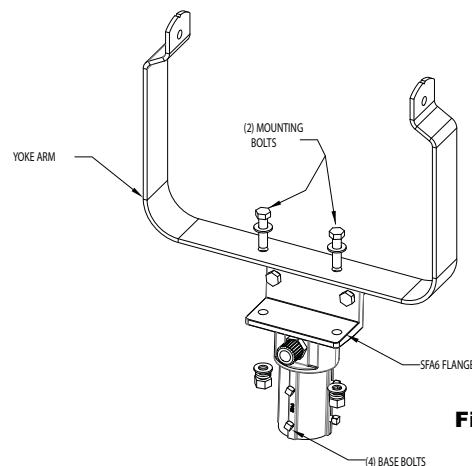

Figure 1 - SFA6
1. Using the two ½" mounting bolts, nuts, and lock washers provided, securely fasten the floodlight yoke to the flange on the SFA6 slipfitter. See Figure 1. Torque the bolts to 45 lbs.-ft.